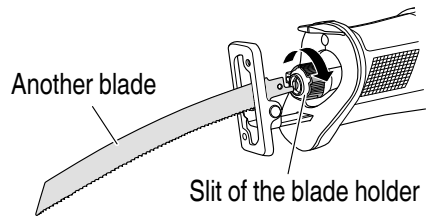

Fig. 11
- (1) If a part of the broken saw blade is sticking out of the slit of the blade holder, pull out the protruding part and take the blade out.
- (2) If the broken saw blade is hidden inside the slit, hook the broken blade using a tip of another saw blade and take it out. (Fig. 11)